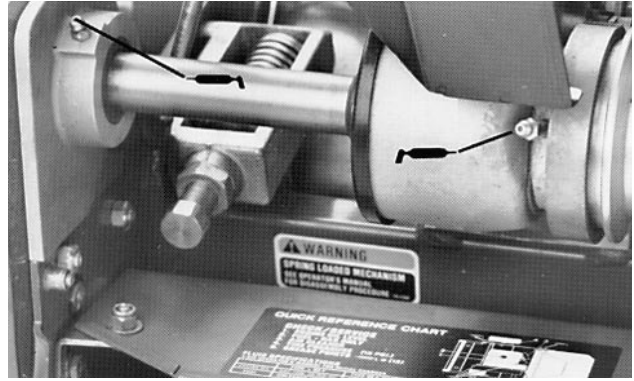
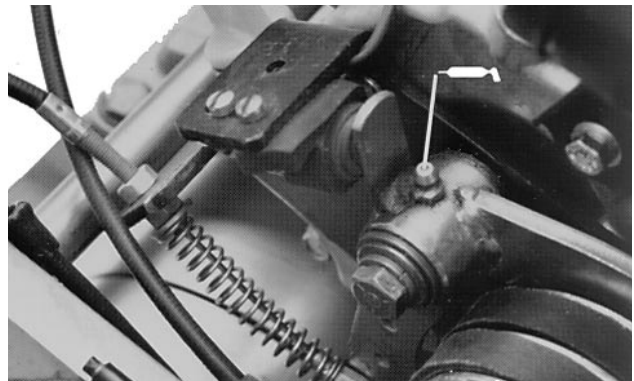
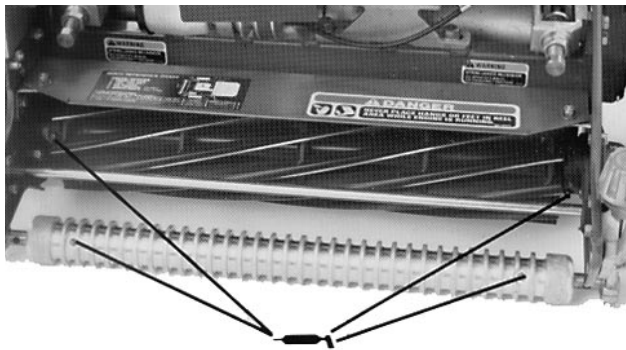
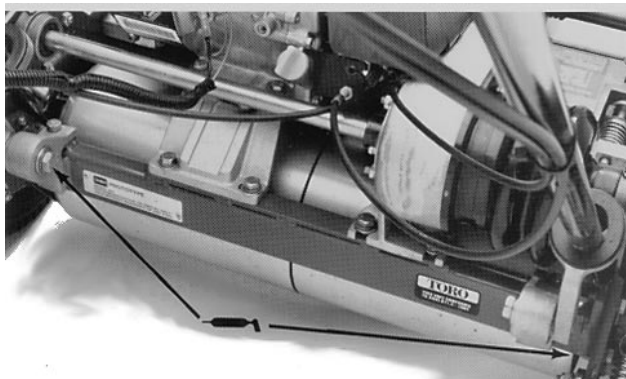

Figure 18
Figure 19
Figure 16
Figure 17
2. The grease fitting locations are: (2) on The front Roller (Fig. 16), (2) on the reel bearings (Fig. 16), (2) on Drum Axles (Fig. 17), (3) on Differential (Fig. 17), (2) on The reel Countershaft Bearings (Fig. 18) and (1) on Belt Idler Pivot (Fig. 19).